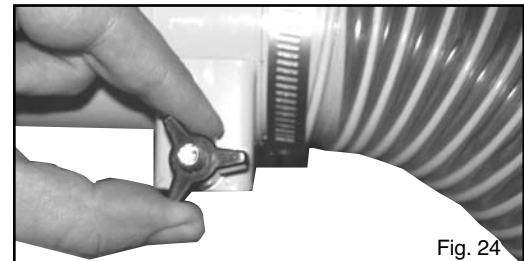

Fig. 24
1. The resistance or balance of the swing arm assembly can be adjusted with the spring knob located on the rear of the swing arm assembly. (Fig. 24)